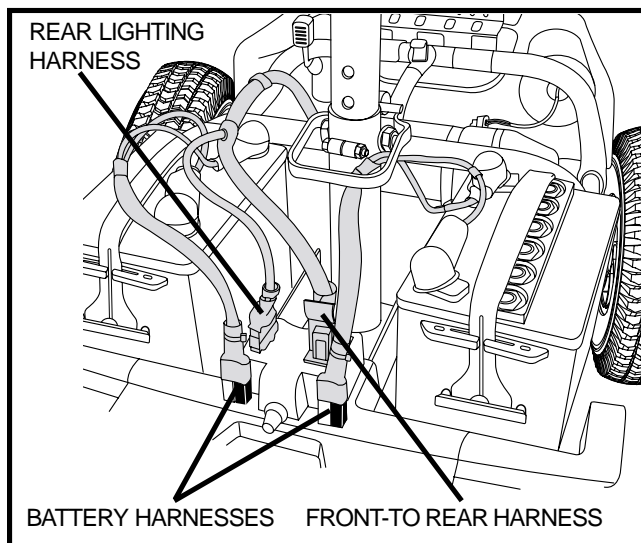

Figure 20. Harness Connections
5. Unplug both battery harnesses. Pull each harness straight up. See figure 20.
6. Connect the front-to-rear harness, rear lighting harness and both battery harnesses. See figure 20.